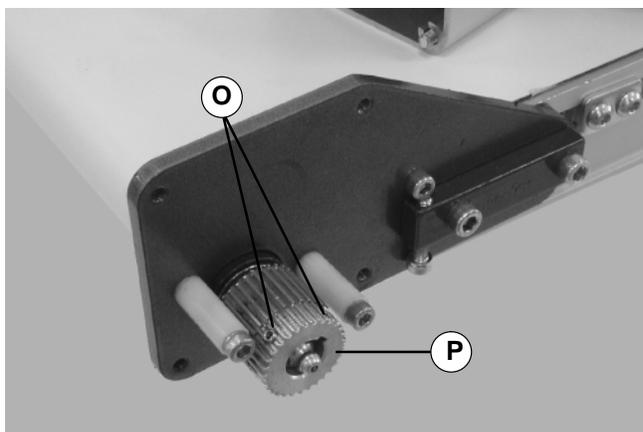

Figure 15
- b. Loosen (2) set screws (O of Figure 15) on timing belt pulley (P).